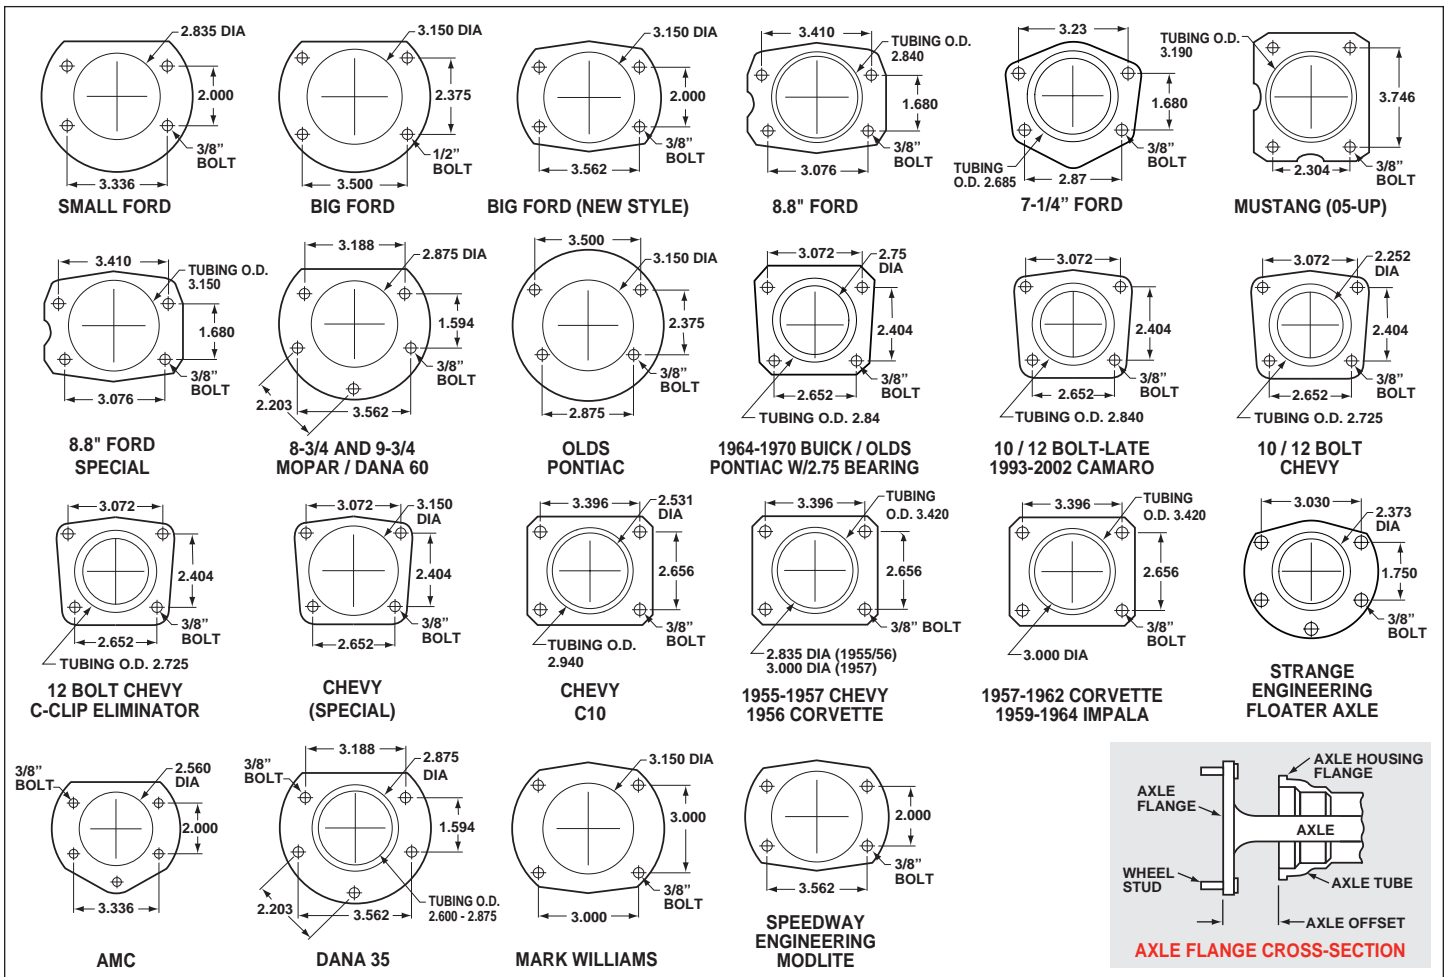

Figure 7. Rear Housing Flange Chart and Axle Flange / Offset Cross-Section
• Make sure this is the correct kit to fit the axle housing flange, not necessarily the rear end make. Many times aftermarket manufacturers put a different make of axle housing flange on the stock rear end housing (Figure 7). Example; Big Ford rear ends with Olds-Pontiac flanges, therefore, an Olds-Pontiac rear disc brake kit would be the correct kit to order. Also, shock clearance may be a problem. They may have to be modified and/or relocated to clear the Wilwood kit after final assembly.
- Dimension from wheel side of axle flange to wheel side of axle housing flange (see Figure 7, lower right hand corner). This dimension is critical to ensure proper alignment of the rotor to the caliper, and should match offset given in the kit description.